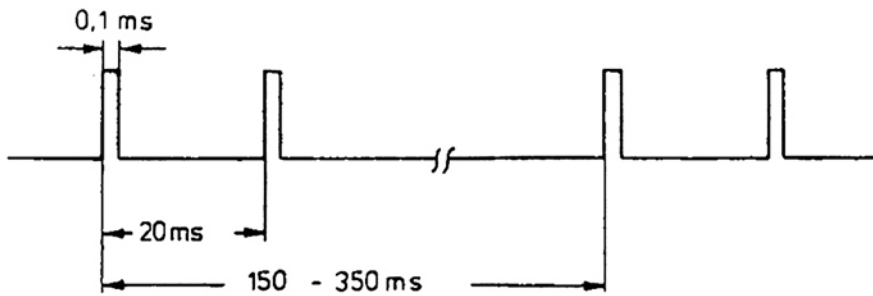

Fig. 2 Discharge pulses
- b) Check discharge pulse at output port P16 of microprocessor module B4 against fig. 2.